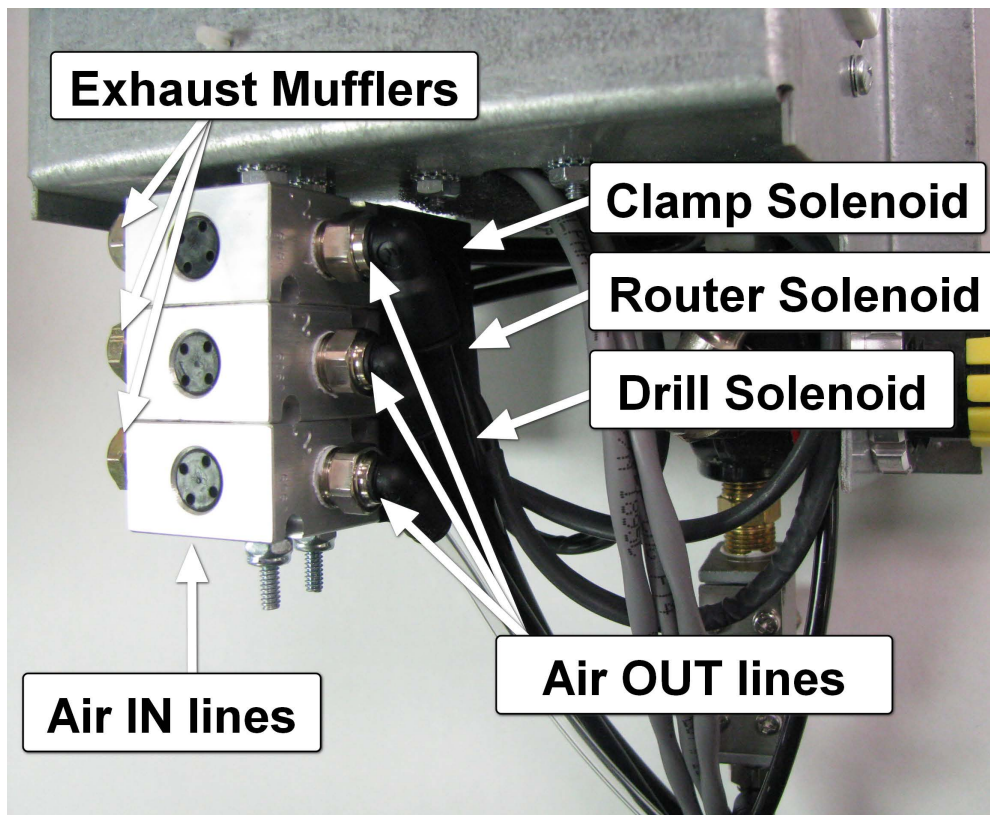
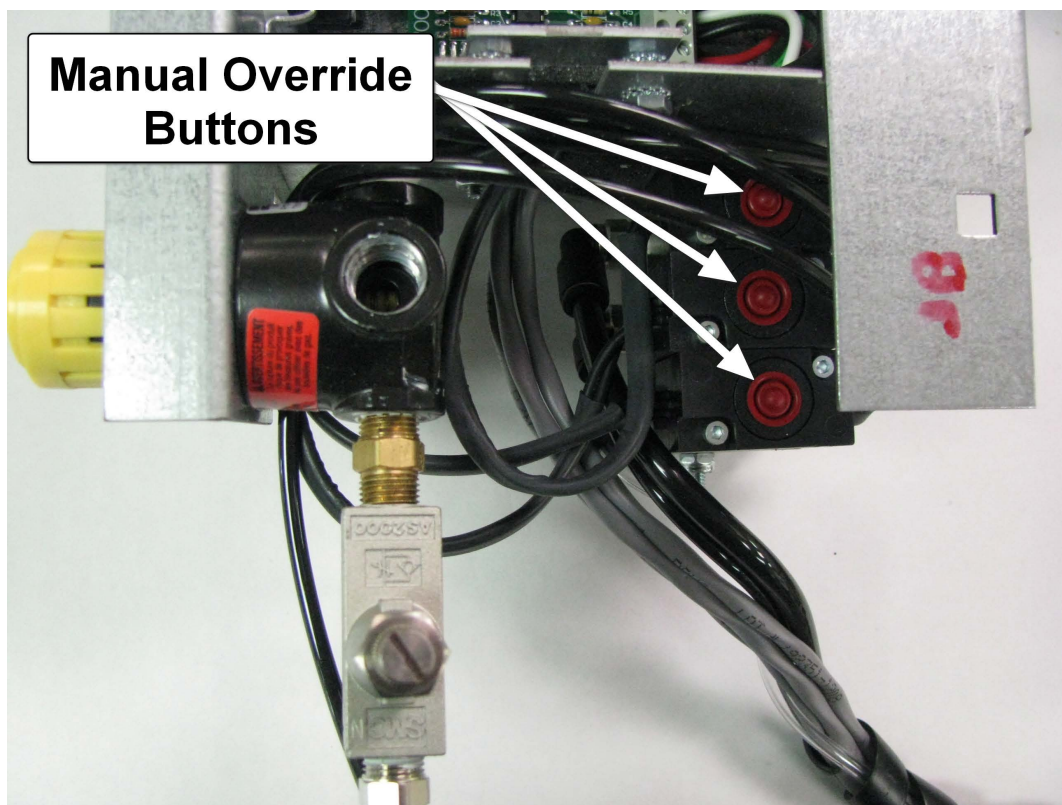

FIG. 12a
Fig 12b
3. If the router does not extend, from the rear door, locate the manual override button on the router solenoid. **See Fig 12a and Fig 12b**